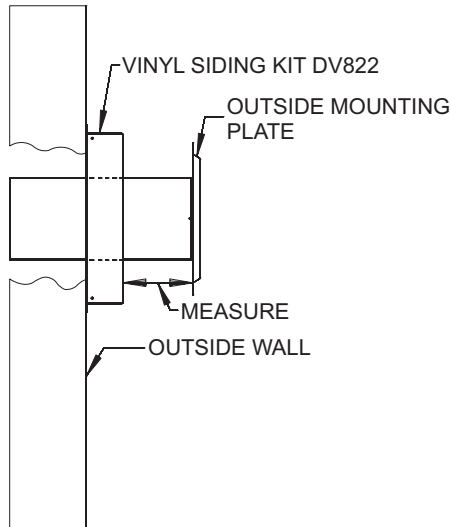
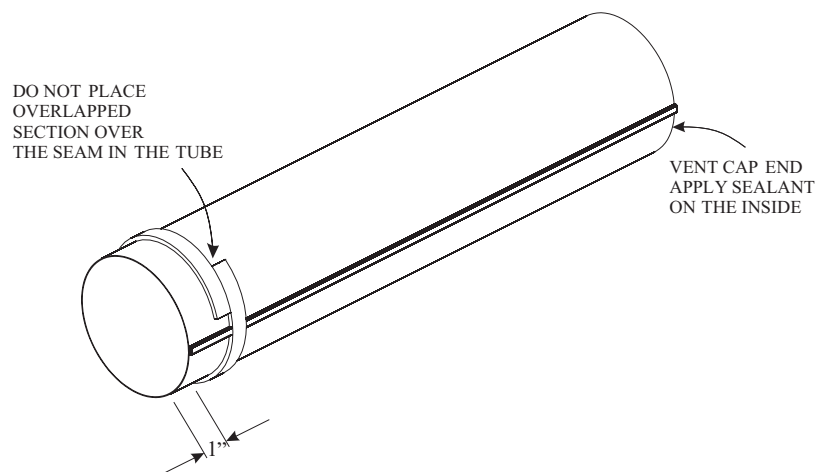

Figure 31
Figure 33
5. Attach the inlet tube to the outside mounting plate. Align tinnerman clips on the tabs of the air inlet tube to the holes on outside mounting plate, and fix with (2) #10 x 1/2" screws.
6. With the vinyl siding kit installed to wall (if necessary), insert the 6 5/8" (168mm) diameter tube with outside mounting plate attached through hole in wall. Connect to collar on fireplace or rigid vent system. Measure between wall or vent cap extension and outside mounting plate (**Figures 31 and 32**).
8. Attach the 4" (102mm) diameter flue outlet tube onto the rigid venting system or directly to fireplace. Ensure the 4" (102mm) diameter flue outlet tube is placed as far as possible onto the rigid venting system. Mark the 4" (102mm) diameter flue outlet tube 2 1/2" (64mm) beyond the vinyl siding kit or wall. **See Figure 31.** Remove the 4" (102mm) diameter flue outlet tube from rigid venting system. When installing directly to fireplace, tape gasket needs to be used.
10. From outside: Push the 6 5/8" (168mm) diameter inlet tube/ mounting plate onto end of rigid venting system to correct position. Fasten the outside mounting plate to the vinyl siding kit or wall with (4) 10 x 1 1/2" screws. (Ensure upward slope).
11. From inside: Attach the inlet tube to the collar on the back of the fireplace (or the rigid venting system) using (3) self tapping screws.
12. Seal the 4" (102mm) diameter flue outlet tube. Follow instructions and diagram. **See Figure 33.**
14. Fasten vent cap end using (3) 10 x 1/2" screws to mounting plate. **Sealing 4" (102mm) Diameter Flue Outlet Tube**
If the air inlet and flue outlet tubes are to be connected directly to the unit (no rigid venting system is being used), then the gasket provided must be used to seal the 4" (102mm) flue outlet tube. Peel the paper off the self-adhesive gasket and then wrap it around the end of the tube (if tube was cut, it is recommended to use cut end) as shown in Figure 33. Pull the gasket tight at all times while wrapping it around tube. The gasket ends should align, to form a complete seal. The overlapped section should NOT come in contact with the seam in the tube. Apply high temperature sealant to the opposite end of the tube (on the inside of the tube). The end with the gasket will attach to the back of the unit. Continue with Step 13.